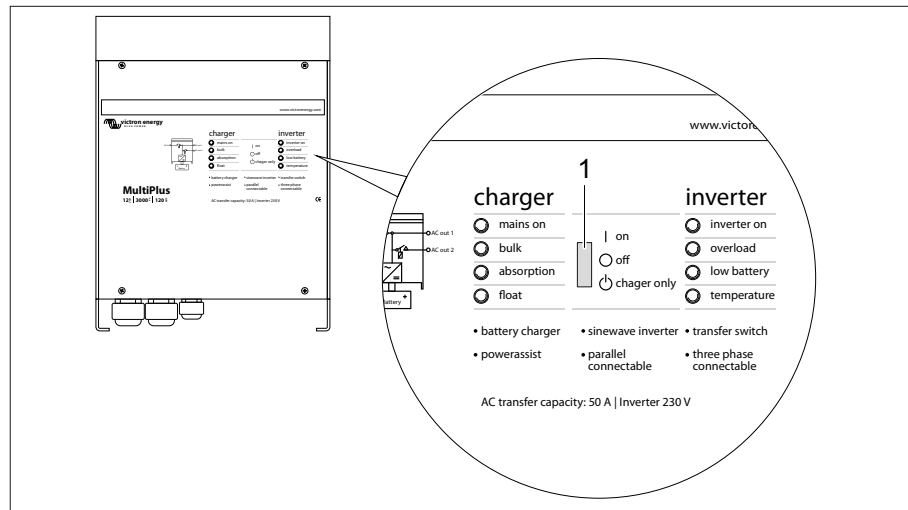

Fig. 252 AC converter MultiPlus
For proper functioning of the Digital Multi Control Panel the flip switch at the AC converter MultiPlus (Fig. 252,1) has to be set to "on".
Positions of the flip switch (Fig. 252,1)
- ▷ If no 230 V connection is active and the vehicle is not being used for a long period, the flip switch (Fig. 252, 1) has to be set to "off". Otherwise it is possible that the batteries are empty are 3–4 days at the latest.